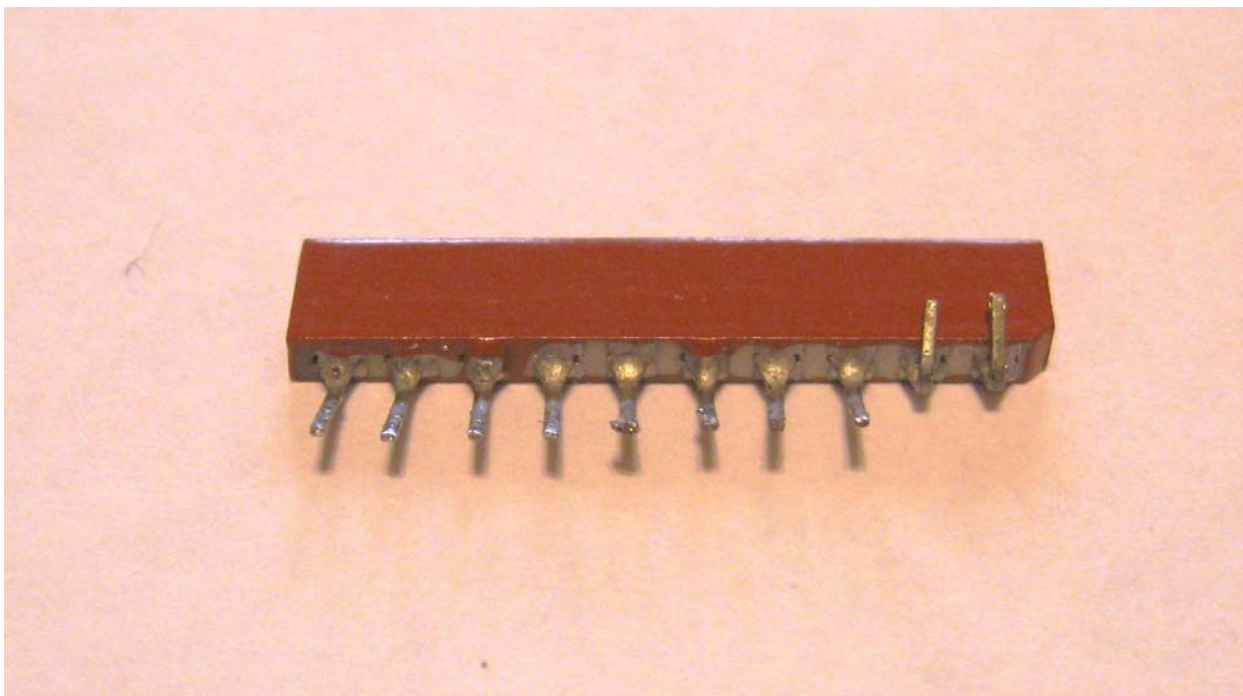

Figure 6.4. Resistor pack's pins 1 and 2 bent completely and others slightly up
1. Prepare resistor packs as shown on fig. 6.4 – bend pins 1 and 2 completely up (pins 1 will connect to +5V and pins 2 will be unused), and slightly bend other pins up so that when resistor pack's body is put onto the PCB pins 2-10 would touch IDE connector's protruding pins;